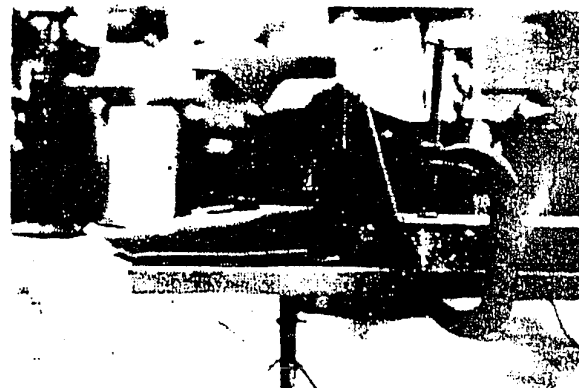
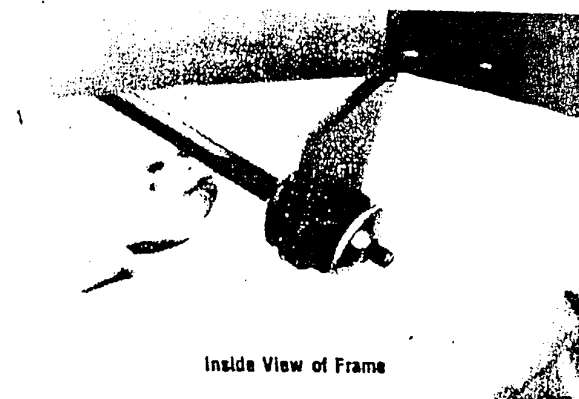
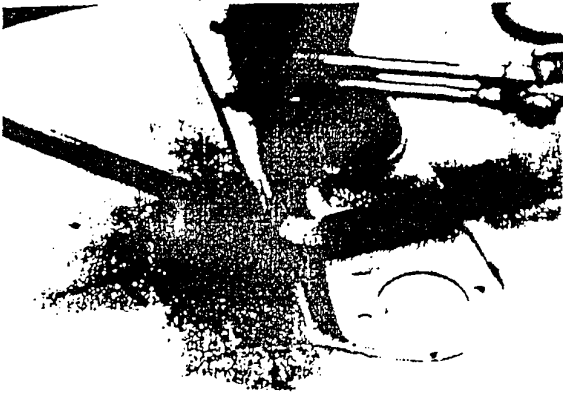
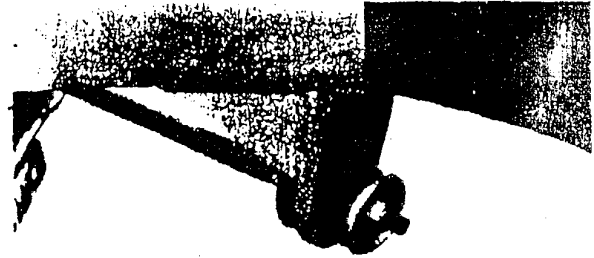

Figure 7
Figure 8
Figure 9
Figure 10
10. You will use the lower control arm and strut rod for locating the rear strut rod supports and gussets. Using a 2 x 4 and a C-clamp, install the control arm as shown in Figure 7. Also install the strut rod. Now, assemble onto the strut rod end the large rubber bushings, including the cupped washers, and the strut mount plate. Be certain to fully tighten the nut on the strut rod to its' fully seated position. (See Figure 8.) There are two rubber bushing sets available; the standard replacement and the improved set. We recommend the improved set, as it provides more stability to the front suspension. The Pinto and Mustang strut rods are different lengths. We recommend the use of Pinto strut rods, as they are shorter than the Mustang strut rods. You will find that with either strut rod the strut rod plate does not line up with the bottom of the frame rail. The strut rod must be heated in the area shown, and bent outward as shown in Figure 9. The rod is bent outward until the strut mounting plate lines up to the frame rail. You will find that because the Pinto strut rod is shorter, it requires much less bending. The strut rod will act as an alignment fixture while you tack weld the mount plate in place, then tack weld the gusset in place, as shown in Figure 10. Remove the strut rod, bushings, and arm, and finish welding to the frame and each other.